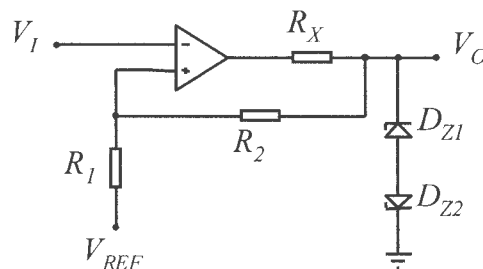

Figure 1a
1. a. Explain why hysteresis is usually necessary in comparator type circuits. (2)
- b. Sketch the transfer characteristic, V_O against V_I , of the Schmitt trigger circuit shown in Figure 1a. Highlight the hysteresis band.